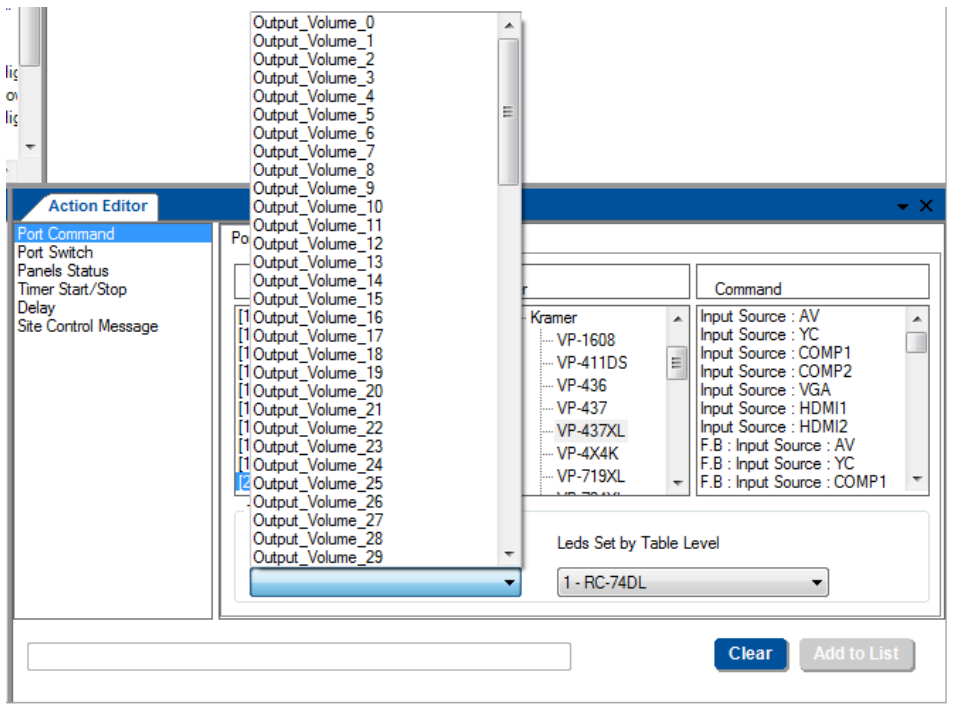

Figure 184: The Table Port Command – Setting a specific Volume Level
- Set the behavior of the table commands to go gradually up, down, or set to a specific value. If you click Set, you can choose a specific volume level (see Figure 184):